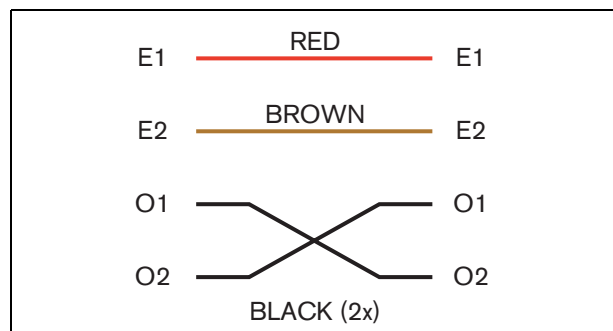
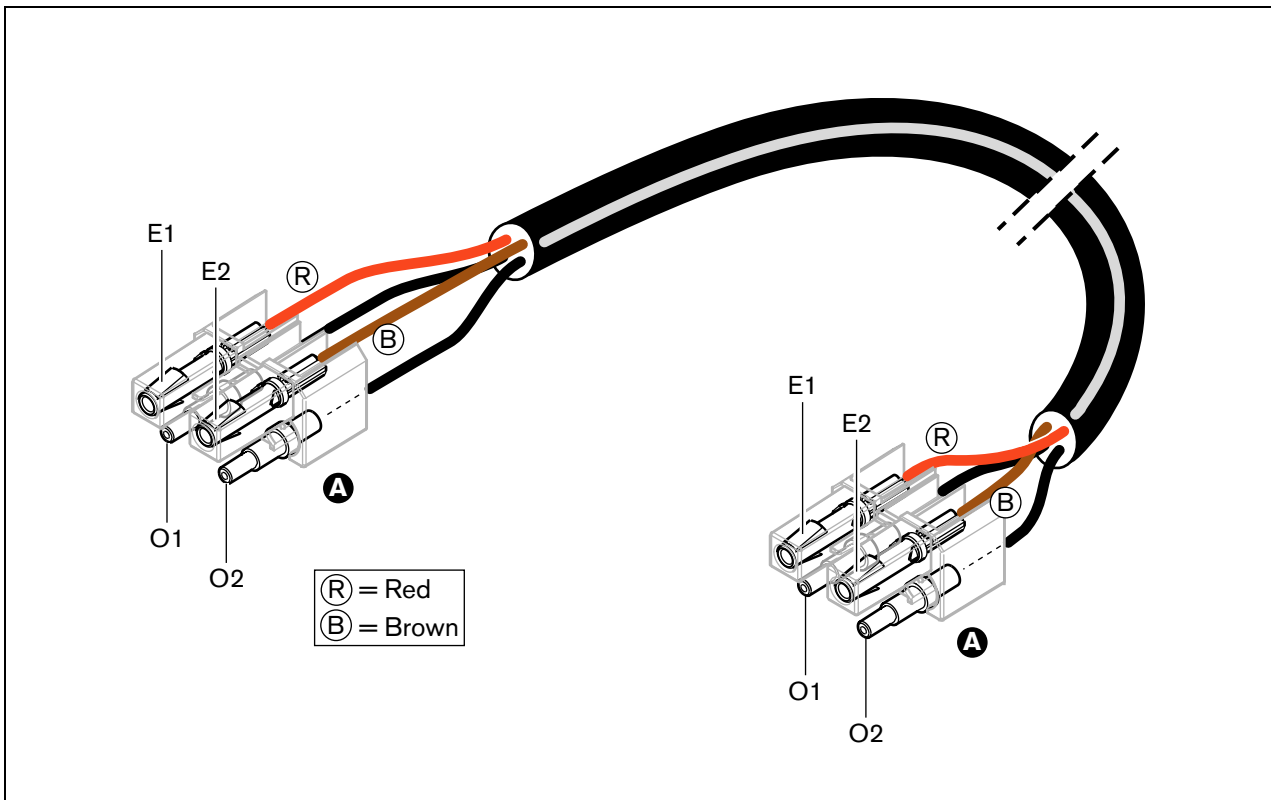
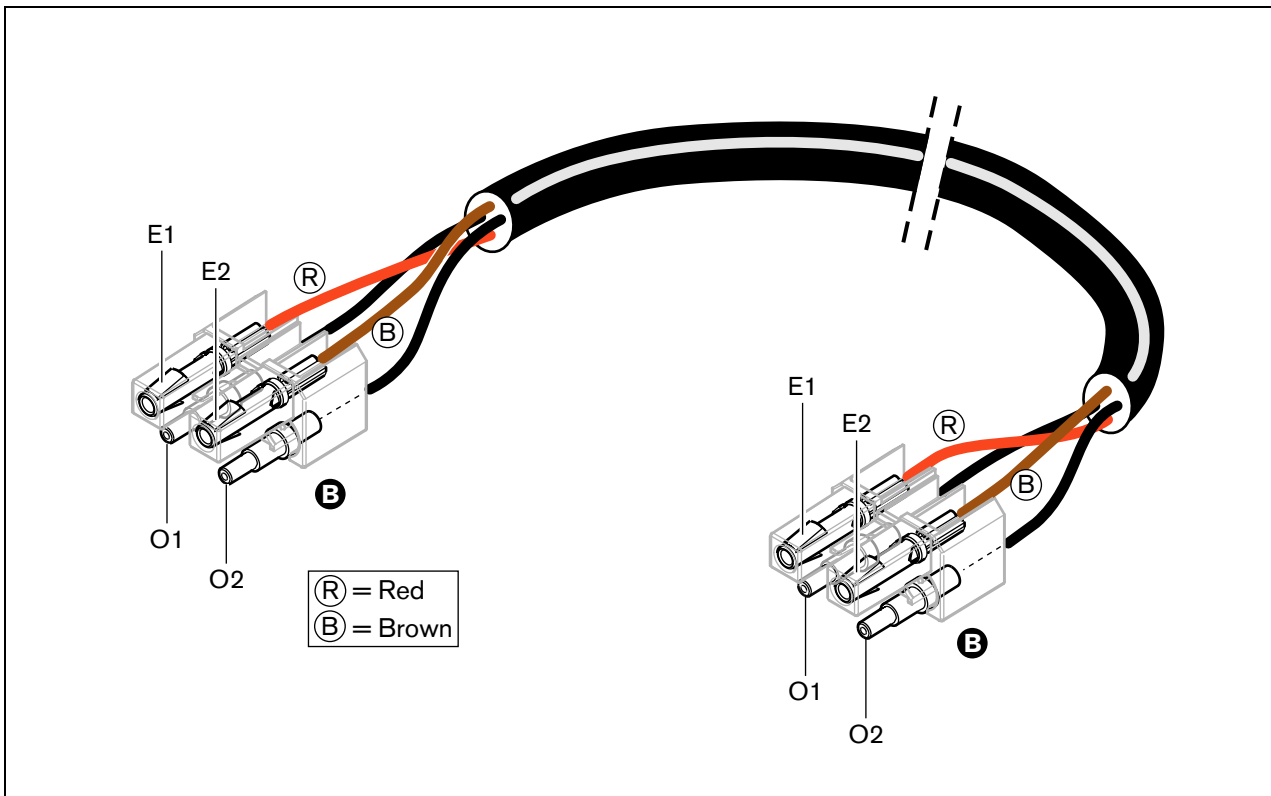
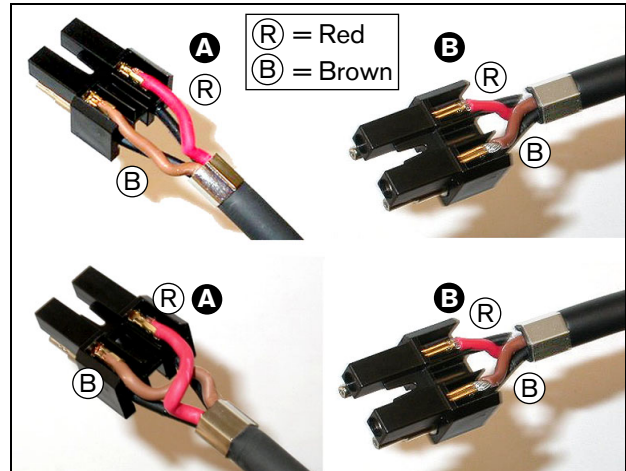

figure 22.28: Wiring diagram
figure 22.29: Wiring diagram applied to type A optical network cables
figure 22.30: Wiring diagram applied to type B optical network cables
figure 22.33: Mounting block and back housing
Also, observe the wiring diagram (see figure 22.28). For the practical implications of this diagram, see figure 22.29 and figure 22.30).
- 28 Put the socket contacts in the mounting block (see figure 22.33). In one of the connectors attached to a type A cable, the red and brown copper wires must cross to meet the wiring diagram (see figure 22.28).